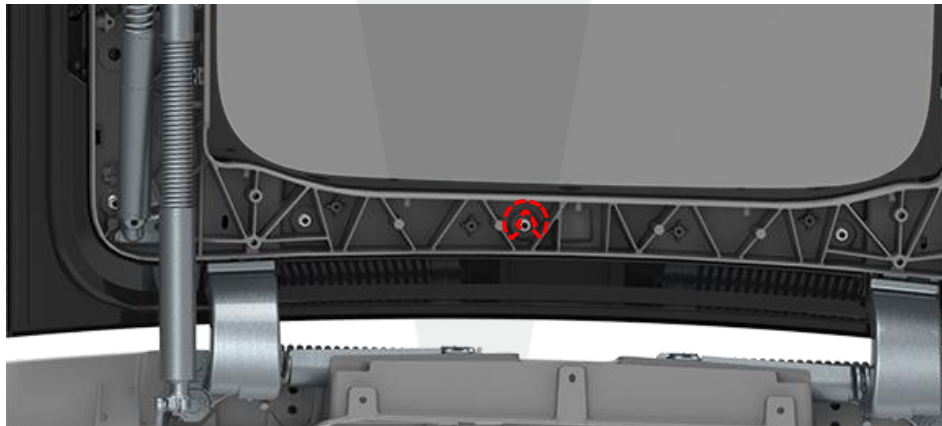

Figure 5
8. Use the tape as a tool to insert the washer between the glass and the upper door, around the lower center stud (Figure 5). Temporarily adhere the tape to the window.